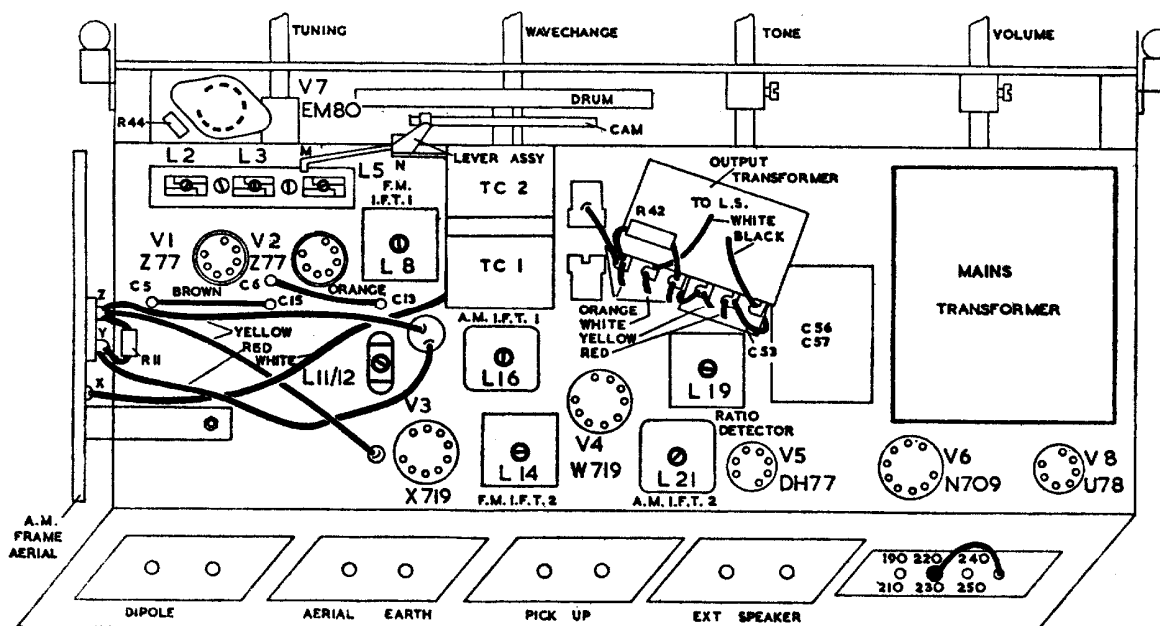

FIG. 1. UPPER VIEW OF CHASSIS
- (v) In early production receivers the frame aerial assembly was fixed to the ganged capacitor and this caused a tendency to microphony in some instances. Removing the frame aerial to a position at the V1 end of the chassis (fig. 1) and fixing it by means of the screw holding the clamp for C51 ($8\mu\text{F}$) will clear microphony due to vibration of the frame aerial and ganged capacitor.